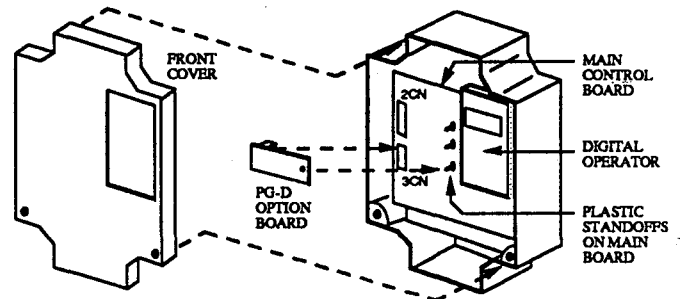

Figure 2. Installation of PG-D in GPD 503
5. See Figure 2. Install the option on the Main Control Board, 1PCB, and ensure 3CN is properly connected. Make sure Electrostatic procedure is followed.